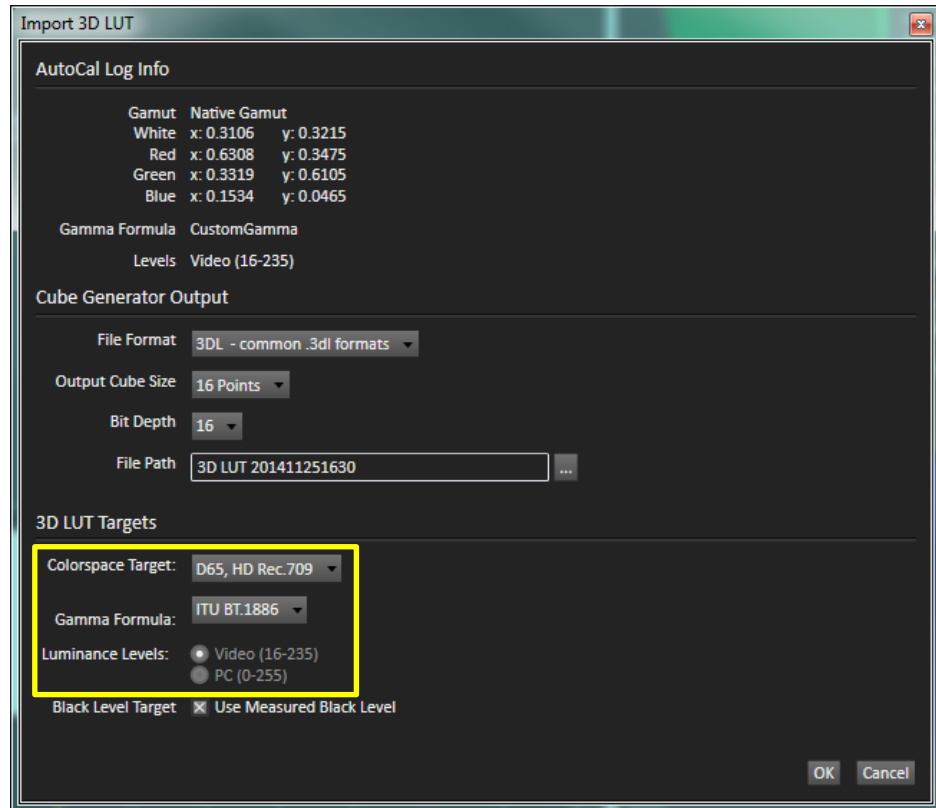

Figure 7: On the *Import 3D LUT* dialog, select the desired colorspace and gamma targets for your new 3D LUT.
3. On the *Import 3D LUT* dialog that opens (Figure 7), select the desired colorspace and gamma targets for your new 3D LUT.